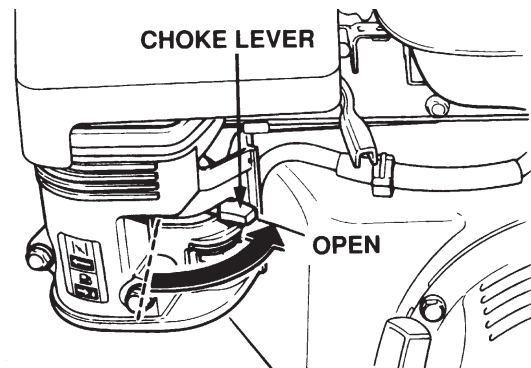

Figure 21. Choke Lever (Open Position)
5. If operating the SP2 in **cold weather conditions**, skip this step and proceed to step 6. Place the **Choke Lever** (Figure 21) in the **OPEN** position. Skip to step 7.